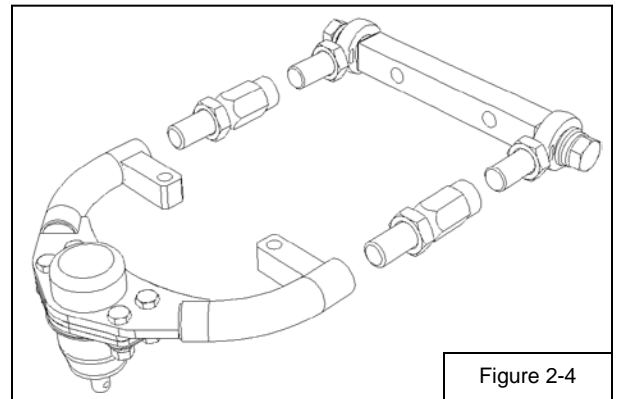

Figure 2-4
13. Loosen jam nuts (Items 6 & 7) at adjustment couplers (Item 9) and disassemble existing control arm as shown in illustration (Figure 2-4).